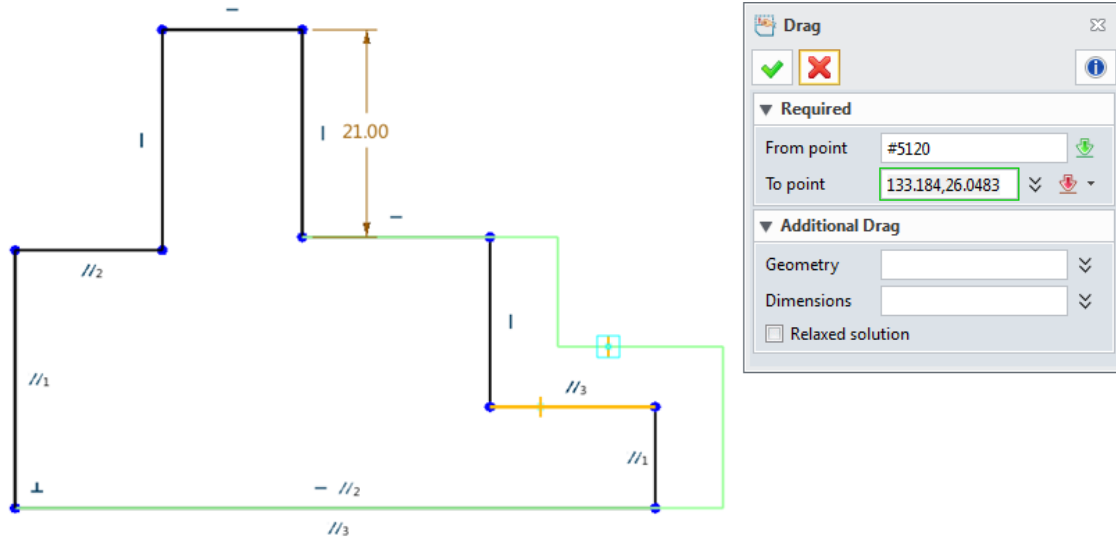

Figure 71 Simple Drag
**STEP 02** Define the destination point (To point). Figure 71 shows the simple case.